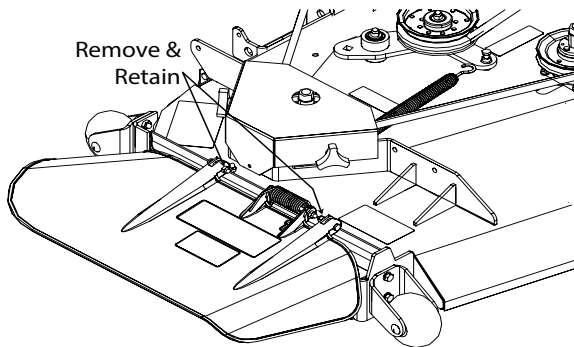

Figure 3-19. Removing the Discharge Chute
3. Remove the discharge chute from the machine. See Figure 3-19.